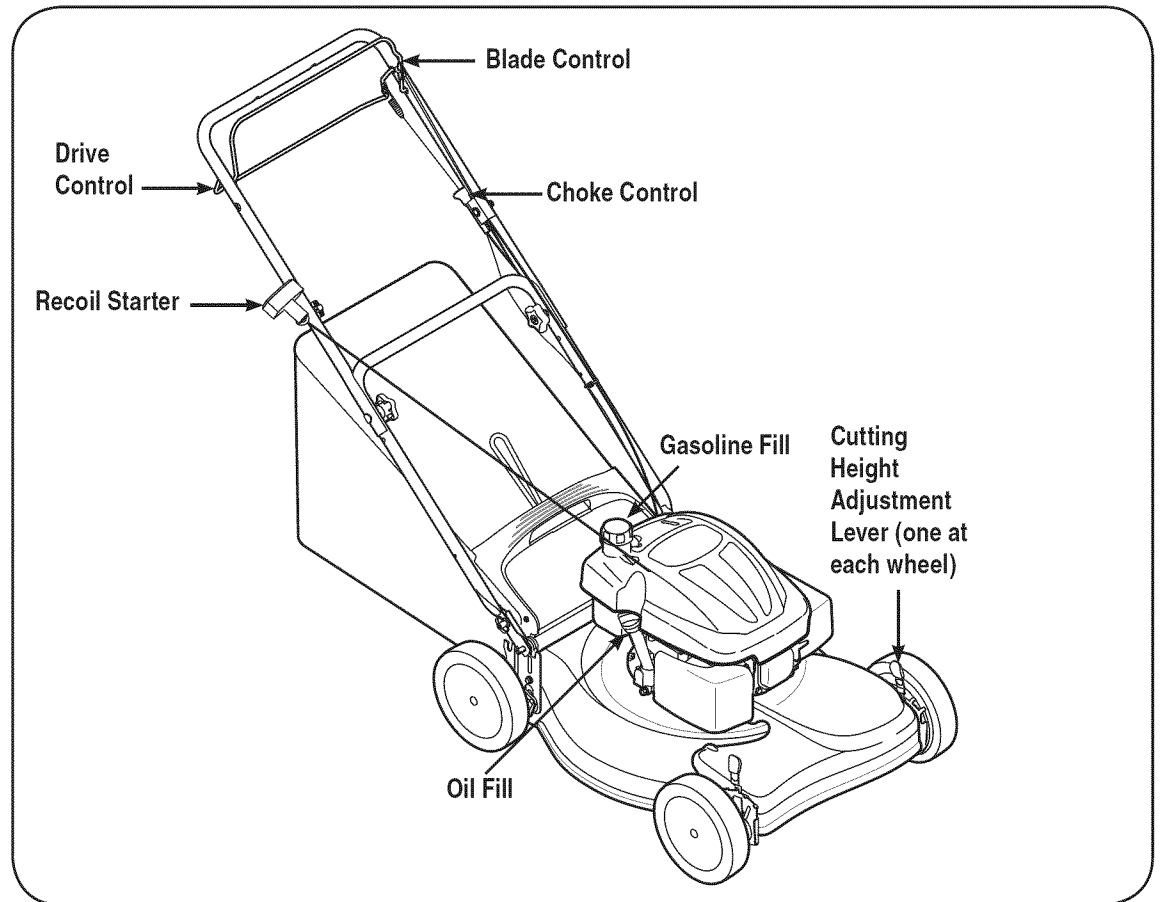

Figure 4-1: The main components on the mower.
1. Add oil provided before starting unit for the first time out of the box. Follow engine operation section for this. See Figure 4-1 above for location of the oil fill.
2. Service the engine with gasoline as instructed in the engine operation section. See Figure 4-1 above for location of gas fill.